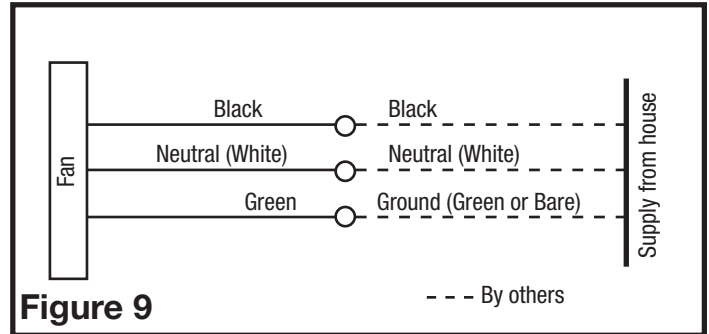

Figure 9
3. For two speed fans wired for continuous ventilation, connect the White wire of the fan to the White (Neutral) wire from the power source. Connect the ground wire from the house to the green wire from the fan housing. Connect the Black wire of the fan to the Black wire (Hot) from the power source. The fan will operate on low speed continuously and boost to high speed when motion is detected (Figure 9). A manual override switch (not included) can be added inline with the black (hot) line to provide a manual fan Off function. If this switch is placed in the Off position none of the unit's functions will operate.